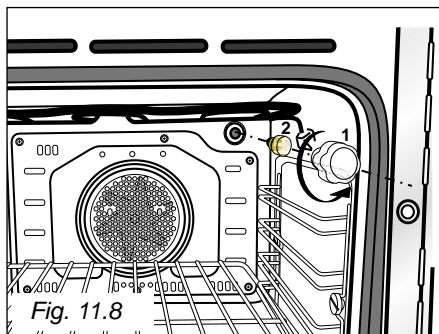

Fig. 11.8
- Unscrew the protective cover (fig. 11.8);